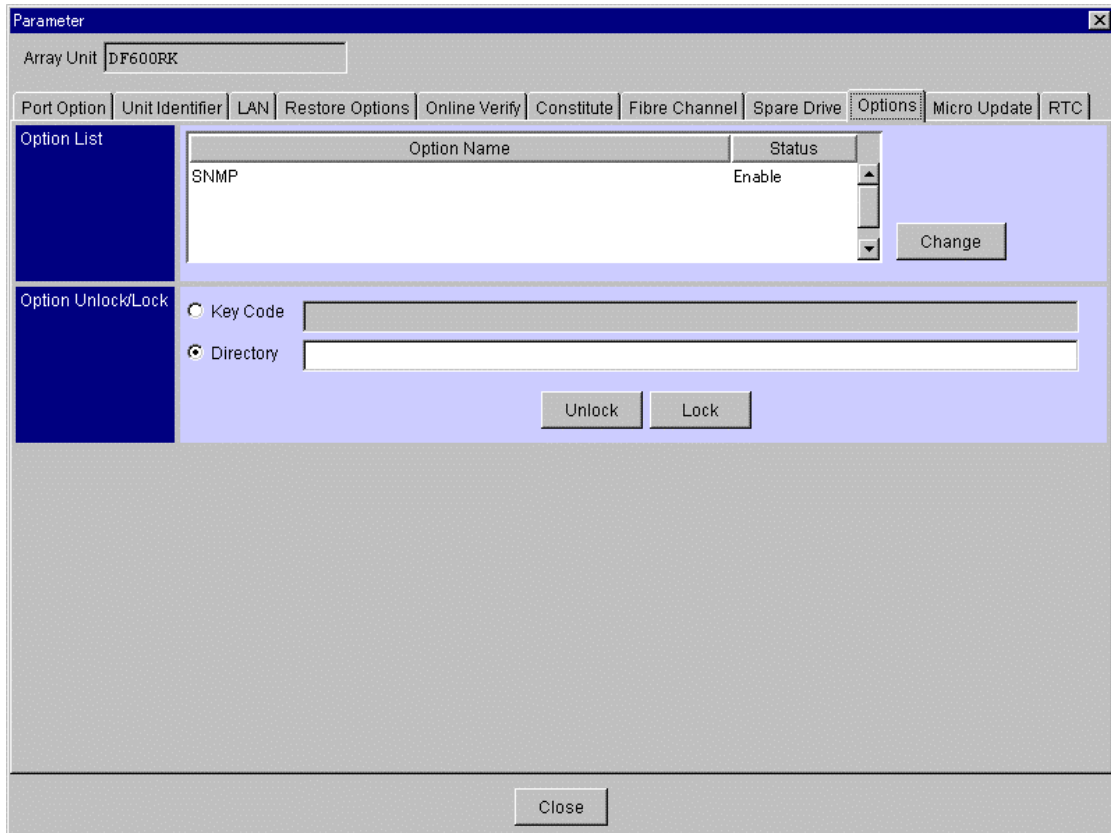

Figure 4.5 Unlocked Optional Feature: SNMP
If you choose not to restart the array unit, a screen appears, displaying the unlocked optional feature: SNMP (see Figure 4.5).
4. Click the **Options** tab (refer to Figure 4.5).